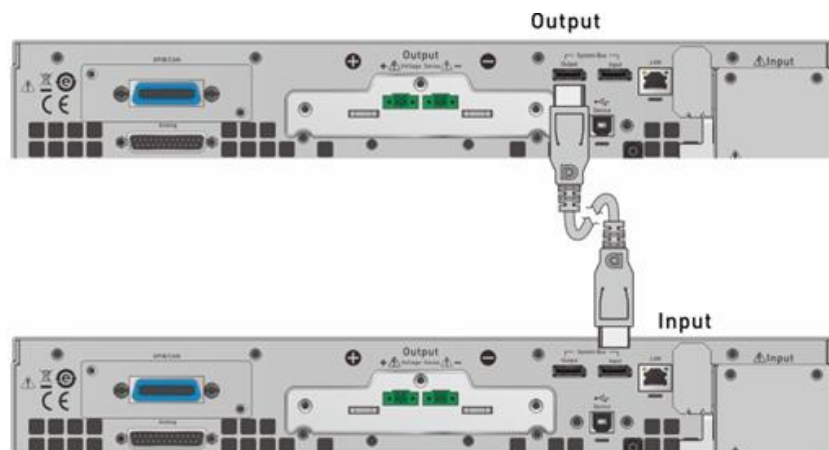
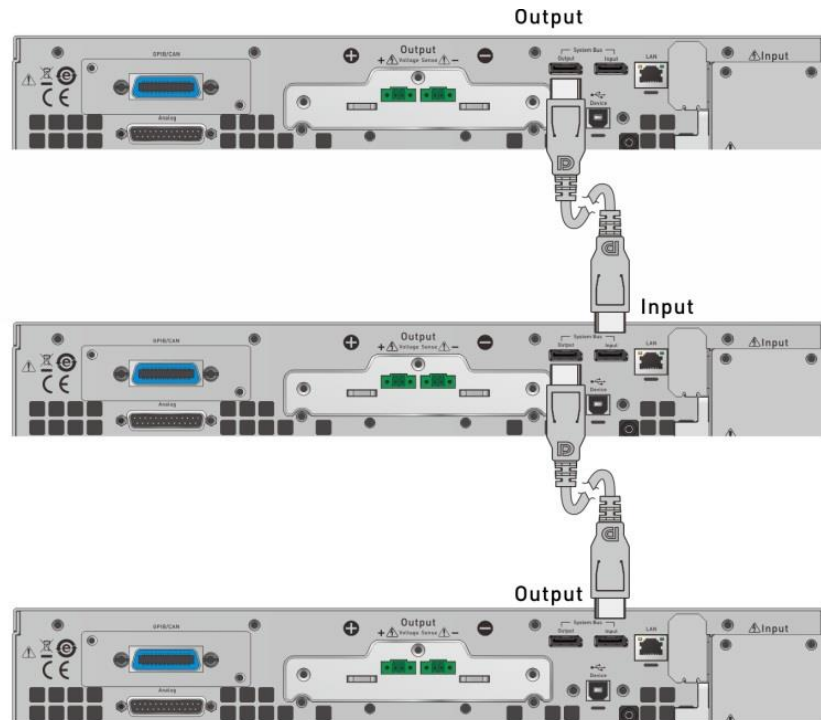

Figure 3-40
Figure 3-41
1. When two DC electronic loads are connected in parallel, the DisplayPort connector (W38-000418) on the rear panel must be connected as shown in Figure 3-40.
2. When three DC electronic loads are connected in parallel for operation, the DisplayPort connector on the rear panel must be connected as shown in Figure 3-41.
Each DC electronic load has two DisplayPort female sockets and there is no difference between left and right connection ports but connected in series as shown in Figure 3-40 or Figure 3-41. The communication cable has a limit of 5 meters in length, do not exceed this limit to avoid an unstable signal. The DisplayPort communication cable connected to the last DC electronic load does not connect back to the first DC electronic load.